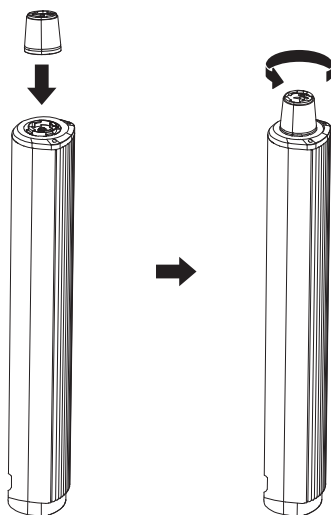

Fig 2
2. Position the bigger end of pole at the bottom of tower fan body into the groove, turn the pole counterclockwise until there is click voice as Fig 2.